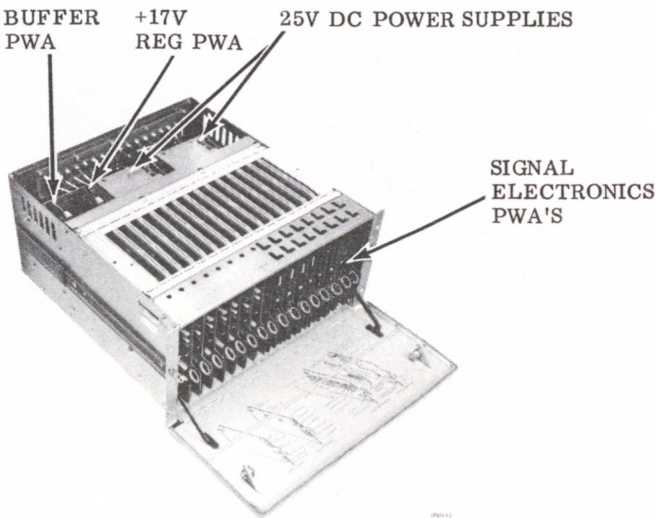

Figure 8-1. Signal Electronics Tray and Power Supplies -Overall View
- b. Remove top cover plate at the rear of the electronics tray (see Figures 8-1 and 8-2).